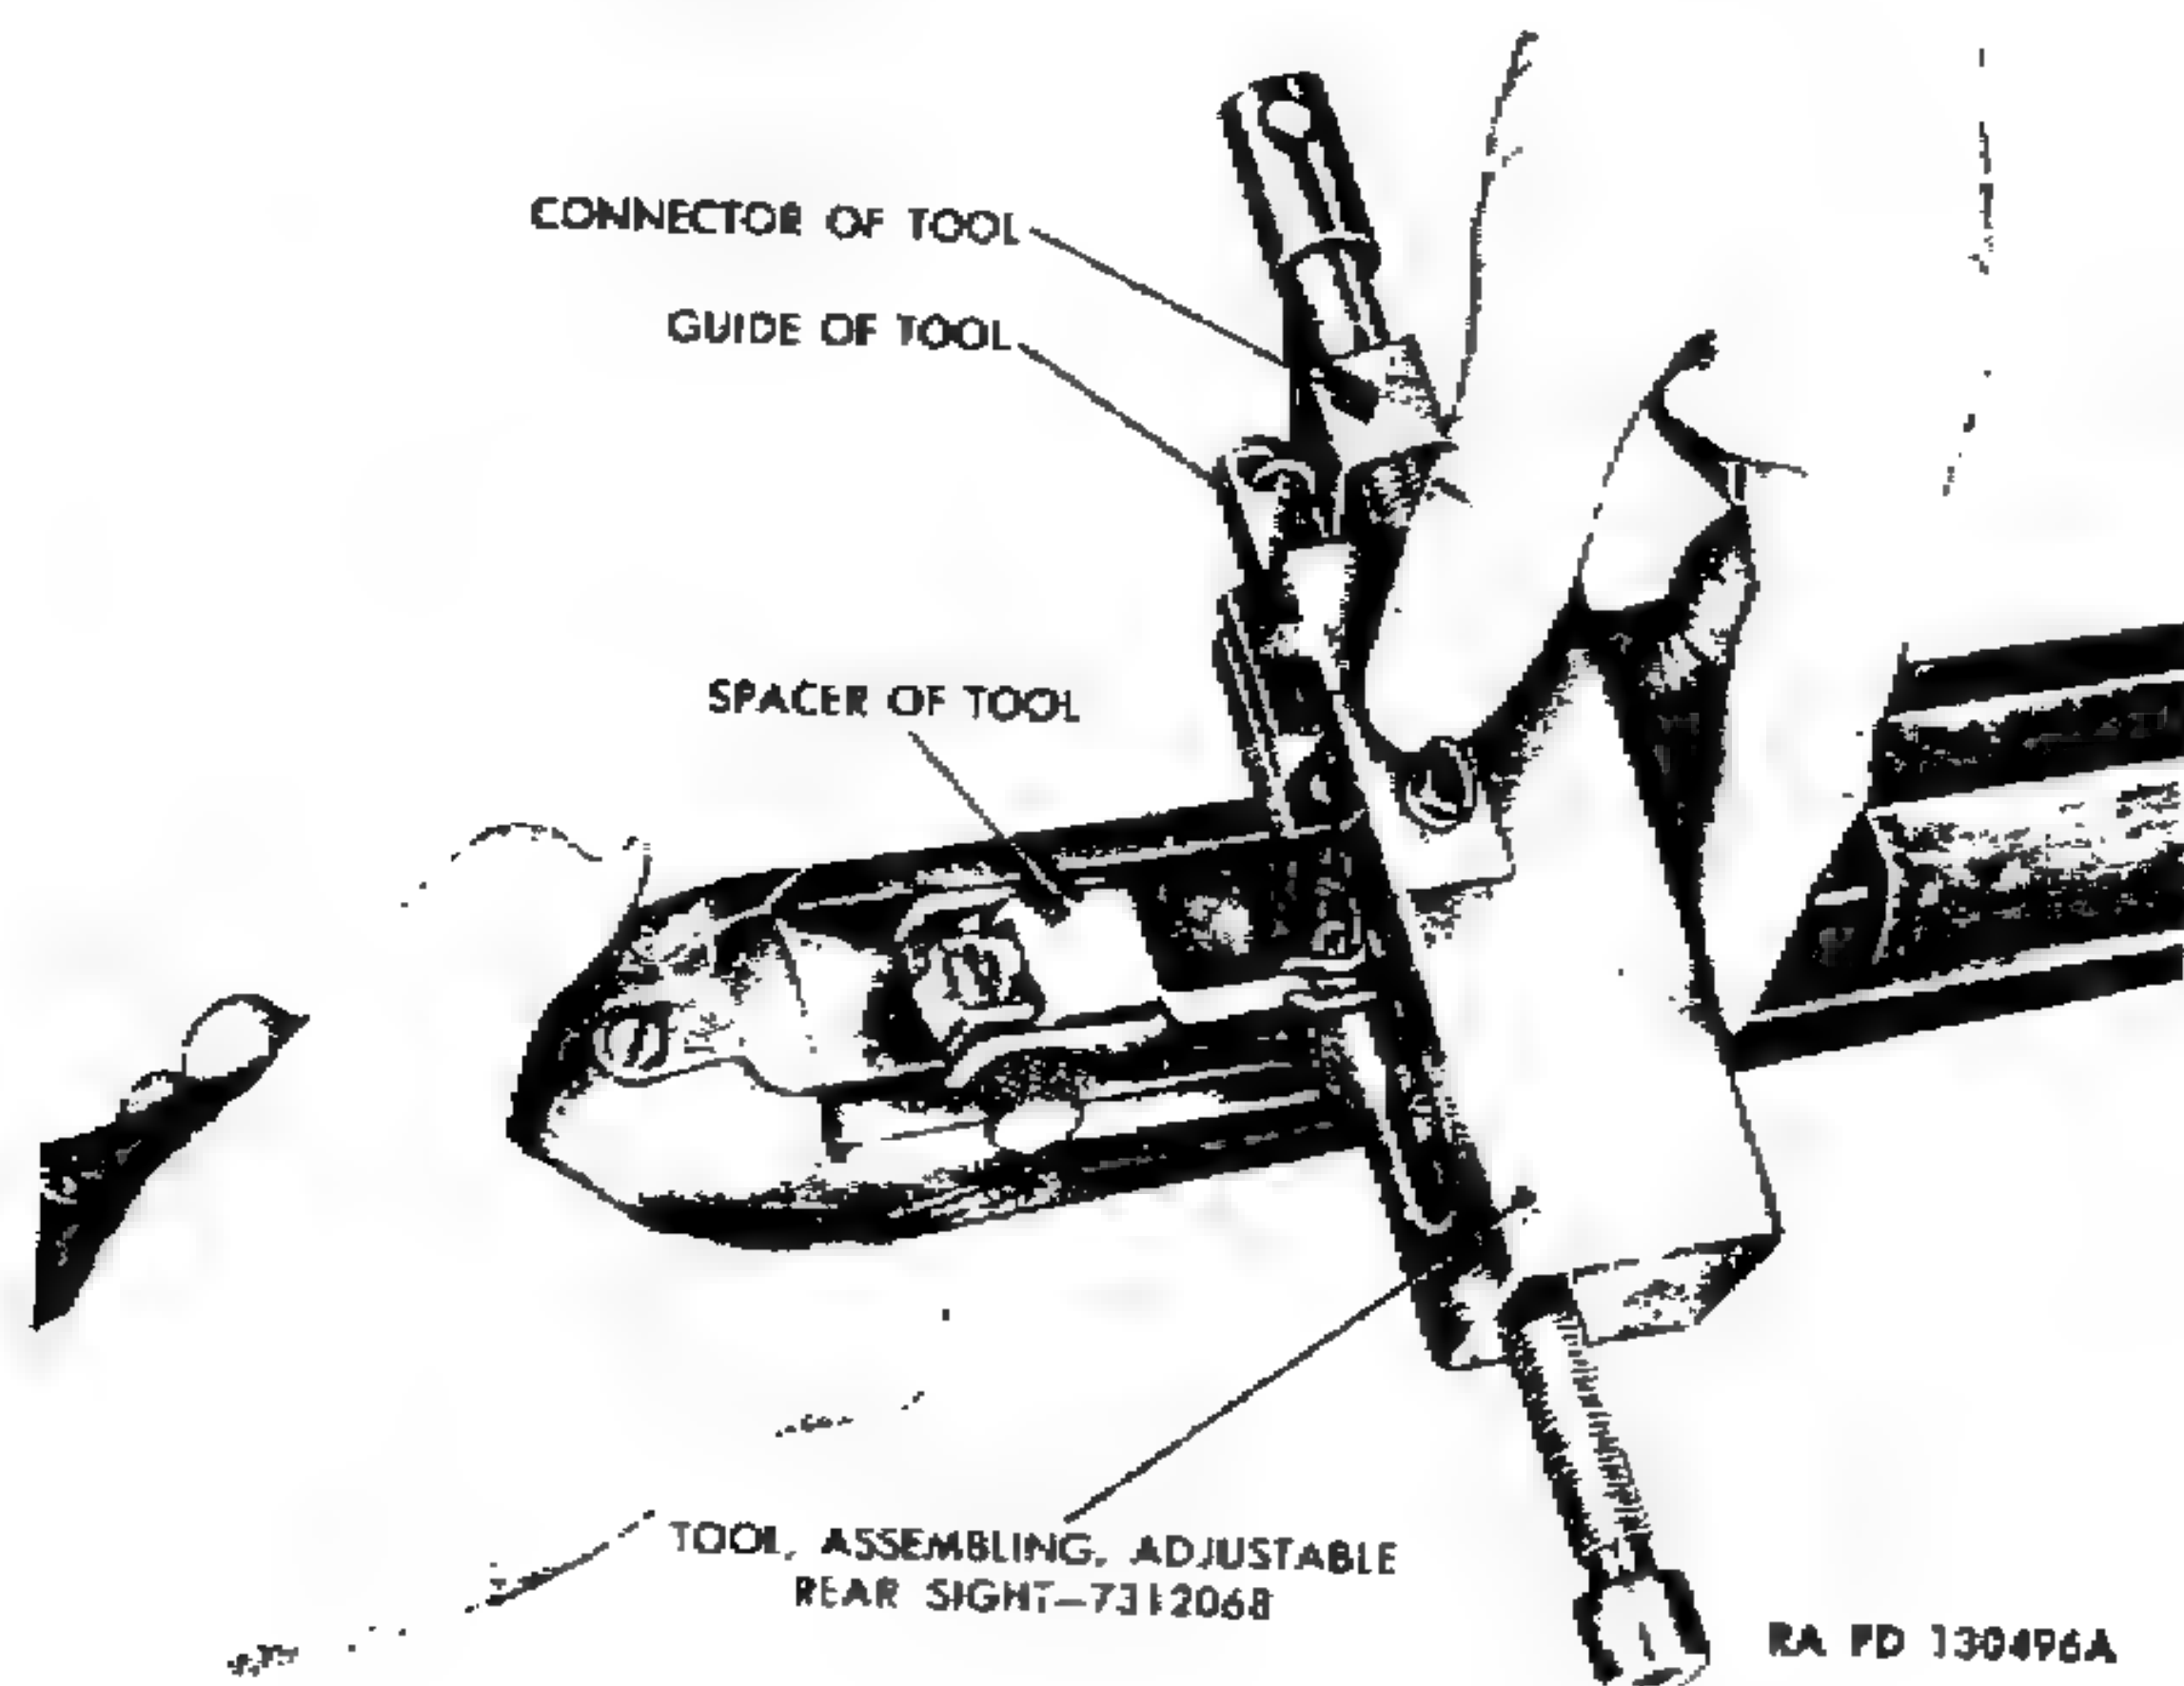

Figure 69. Rear sight assembling tool with spacer.
b. Place adjustable rear sight assembling tool 7312068 (fig. 8) on the receiver with the lip of the tool riding on the operating slide guideway in the receiver. If the sight is of the stamped type, insert spacer (fig. 69) (hanging at end of chain on tool) in place to prevent distortion of sight base wings. With the right hand jack screw retracted to the extreme position and out of the way, slide the tool over the sight (fig. 68).
- If stamped type sight is being placed on receiver, place spacer attached to assembling tool 7312068 in place for reinforcing the side wings of sight (fig. 69).